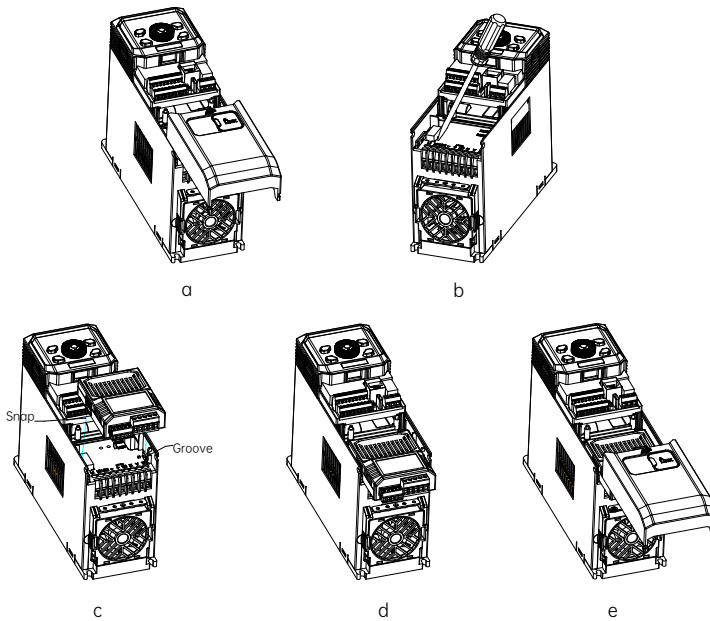

Fig. 5 Position 2 - IO option installation steps
- (1) When the drive is powered off, press the granulated part on the middle-upper of the lower cover, slide it down firmly to take down the cover, as shown in Fig. 5-a.
- (2) Use a straight screwdriver to pry open the dustproof cap, as shown in Fig. 5-b.
- (3) Install the IO option: hold the expansion box (with the IO card inside) upwards (terminals upwards), then align the expansion box with the electrical interface of position 2, and press down horizontally to buckle the spring snap of the expansion box into the groove at the lower part of the drive, as shown in Fig. 5-c and d.
- (4) The IO card is successfully installed, as shown in Fig. 5-e.